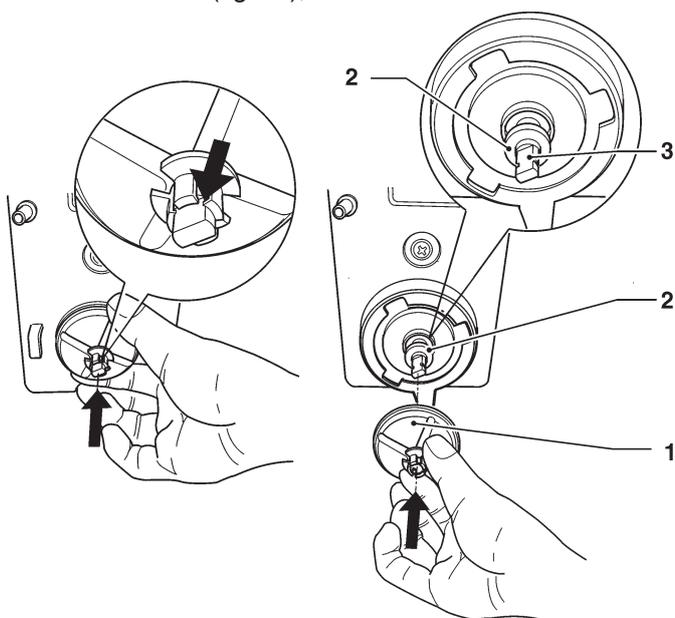

Fig. 32
- to disassemble the impellers, just lock and pull slightly to release them (fig. 32);